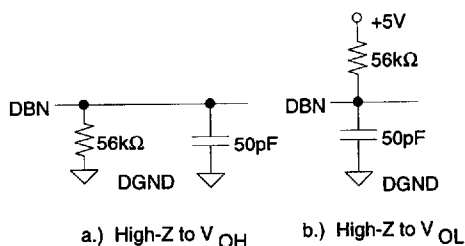

Figure 5. Load Circuits for Access Time
- Measured with the load circuits of Figure 5 and defined as the time required for an output to cross 0.8V or 2.4V.